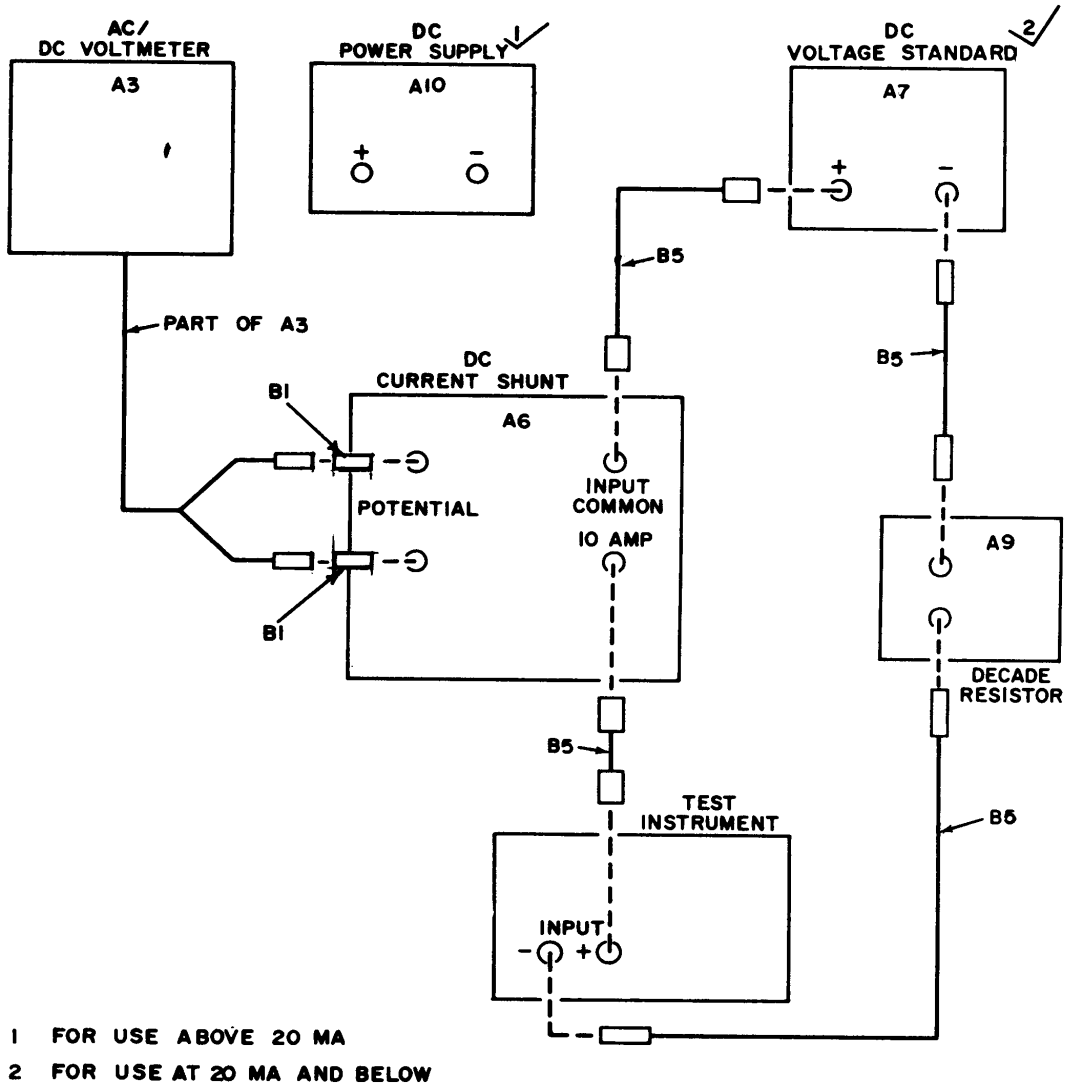

Figure 2. Dc current - equipment setup.
- (1) Set FUNCTION switch to VOLTS and RANGE switch to 100 MV. If necessary, adjust front panel ZERO adjust to obtain an indication of 00.00 on TI.
- (2) Connect equipment as shown in figure 2.
- (3) Set FUNCTION switch to AMPS and RANGE switch to 100 μ A.
- (4) Insert dc current shunt (A6) range plugs in the .0001 AMPERES position.
- (5) Adjust dc voltage standard (A7) output and decade resistor (A9) to obtain an indication of 99.99 on TI. If ac/dc voltmeter (A3) does not indicate between 99.780 and 100.21 mV, perform **b** below.